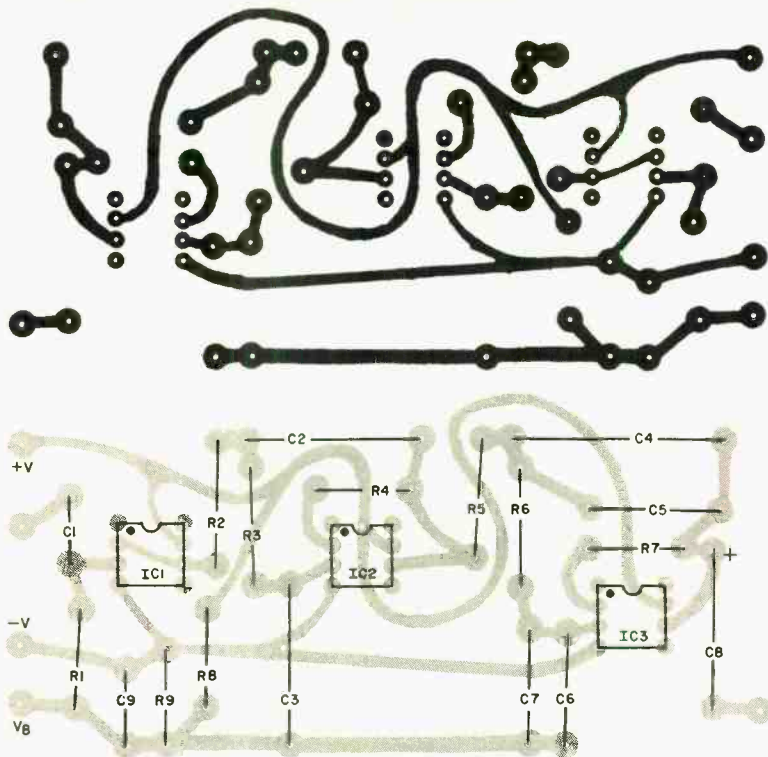

Fig. 2. Actual-size foil pattern (above) and component layout guide.
**Construction and Use.** Owing to the fact that integrated circuits are used in the VCVS active filter, printed circuit board assembly is recommended. (An actual-size etching and drilling guide and a components installation diagram are given in Fig. 2.) However, if sockets or Molex "Soldercons" are used, the filter can readily be assembled on perforated phenolic board.